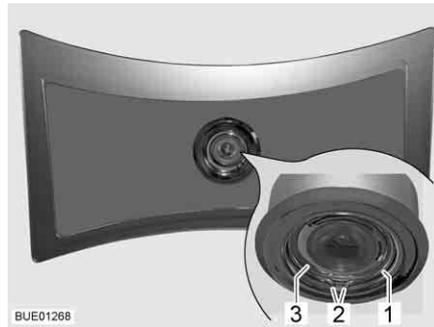

Fig. 281 Ceiling lamp
- Press the two ends (Fig. 281,2) of the spring ring (Fig. 281,1) together and remove.
- Remove the housing (Fig. 281,3) with LED from the lamp.